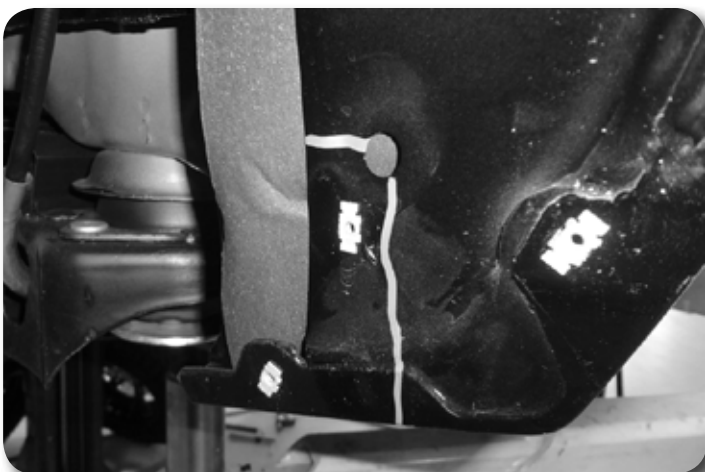

Figure 3
5. Using the hole in the inner fender as a reference, draw a vertical line down tangent to the outer edge **Figure 3**. Draw a horizontal line tangent to the top of the circle.